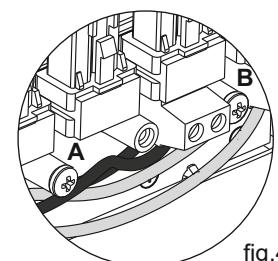

fig.4
- Press the Auxiliary Adaptor Unit firmly against the connection unit and tighten fixing screws A & B until they are just seated against their respective shoulders (fig 4) – Do not over tighten! (0.2Nm max).